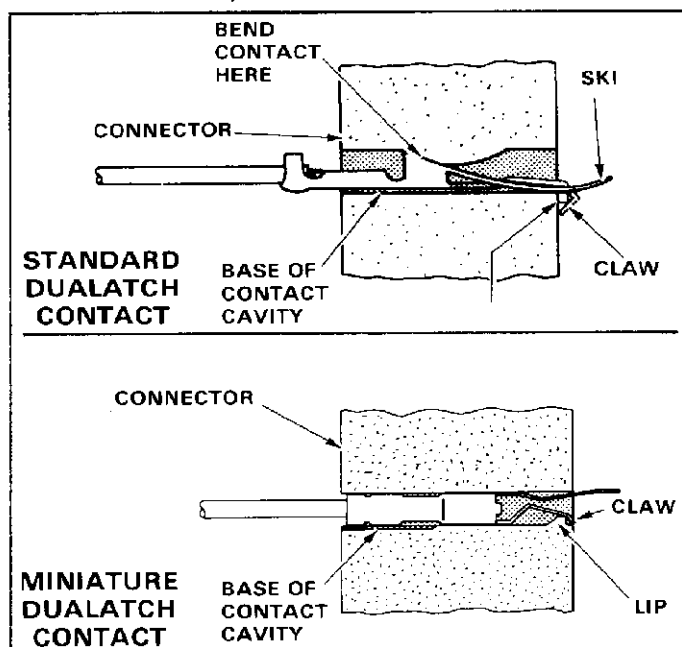

Fig. 2
1. Partially insert the contact into the rear of the housing. Make sure the claw of the contact enters the offset channel in the contact cavity (see Figure 2).
1. Partially insert the contact into the rear of the housing. Make sure the claw of the contact is aligned with the embossment on the front of the housing (see Figure 2).